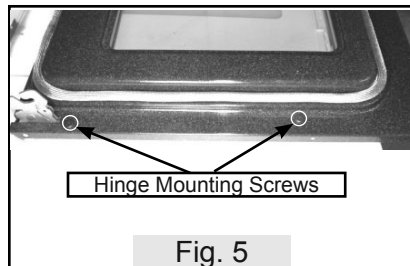

Fig. 5
5. Remove the two hinge mounting screws and lower the hinge assembly away from the inner door panel. (Fig. 5 & Fig. 6).